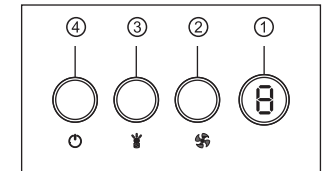

Fig.22
**Note:** Operate switches (Fig.22)